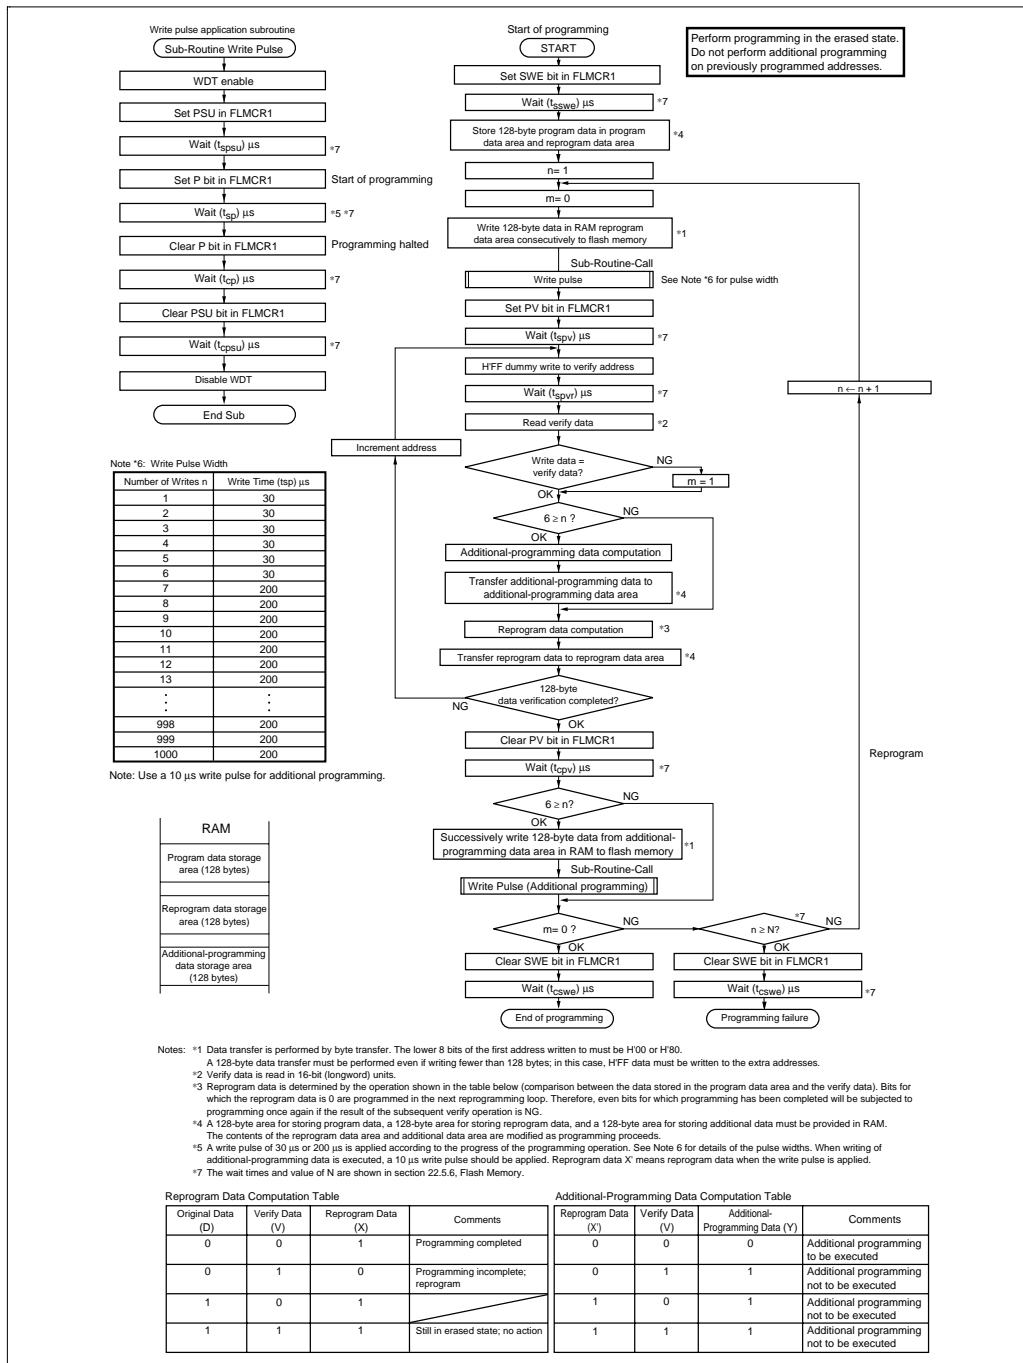

Figure 19.11 Program/Program-Verify Flowchart (128-Byte Programming)
When writing data or programs to flash memory, the program/program-verify flowchart shown in figure 19.11 should be followed. Performing programming operations according to this flowchart will enable data or programs to be written to flash memory without subjecting the device to voltage stress or sacrificing program data reliability. Programming should be carried out 128 bytes at a time.
After the elapse of the given programming time, clear the P bit in FLMCR1, then wait for at least (t_{cp}) μ s before clearing the PSU bit to exit program mode. After exiting program mode, the watchdog timer setting is also cleared. The operating mode is then switched to program-verify mode by setting the PV bit in FLMCR1. Before reading in program-verify mode, a dummy write of H'FF data should be made to the addresses to be read. The dummy write should be executed after the elapse of (t_{spv}) μ s or more. When the flash memory is read in this state (verify data is read in 16-bit units), the data at the latched address is read. Wait at least (t_{spvr}) μ s after the dummy write before performing this read operation. Next, the originally written data is compared with the verify data, and reprogram data is computed (see figure 19.11) and transferred to RAM. After verification of 128 bytes of data has been completed, exit program-verify mode, wait for at least (t_{cpv}) μ s, then clear the SWE bit in FLMCR1. If reprogramming is necessary, set program mode again, and repeat the program/program-verify sequence as before. The maximum number of repetitions of the program/program-verify sequence is indicated by the maximum programming count (N). Leave a wait time of at least (t_{csw}) μ s after clearing SWE.
- 6. The program/program-verify flowchart for the H8/3062F-ZTAT B-mask version is shown in figure 19.11.